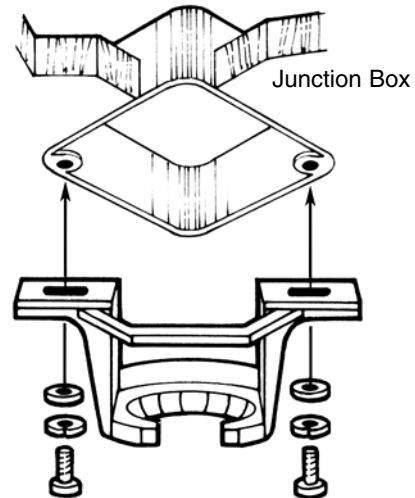

Fig. 2
- ❖ Install the mounting bracket on the electrical junction box in the ceiling using two machine screws, two washers and two lock washers (*see figure 2*).